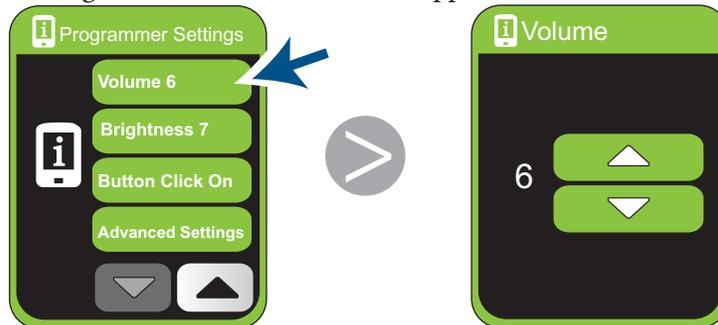

Figure 83. Displaying the Volume screen
3. Tap  (Figure 83). The Volume screen appears.